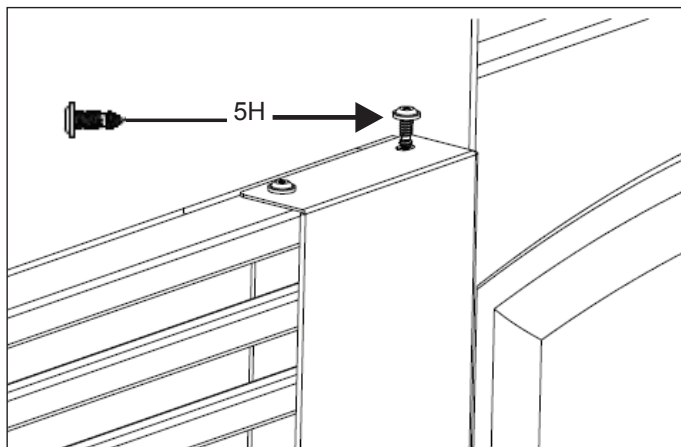

Figure 15
13. Level units and trim to be flush with kitchen cabinets. Attach trim kit to wood blocks using Phillips screwdriver (one per side). (See Figure 15 & Leveling Instructions, Step 14.)